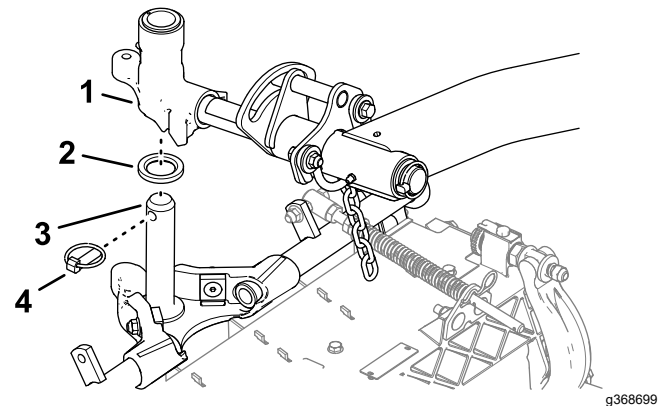

Figure 27
1. Slide a cutting unit under the lift arm (Figure 27).